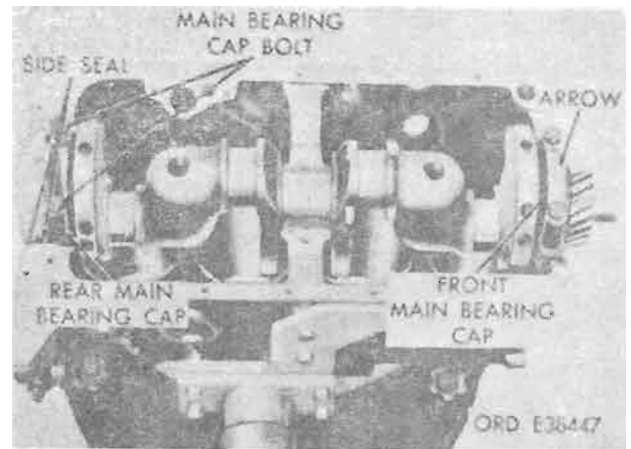

Figure 4-227. Front and rear main bearing caps installed.
d. *Install Main Bearing Caps* (figs. 4-227, 4-228, and 4-229).